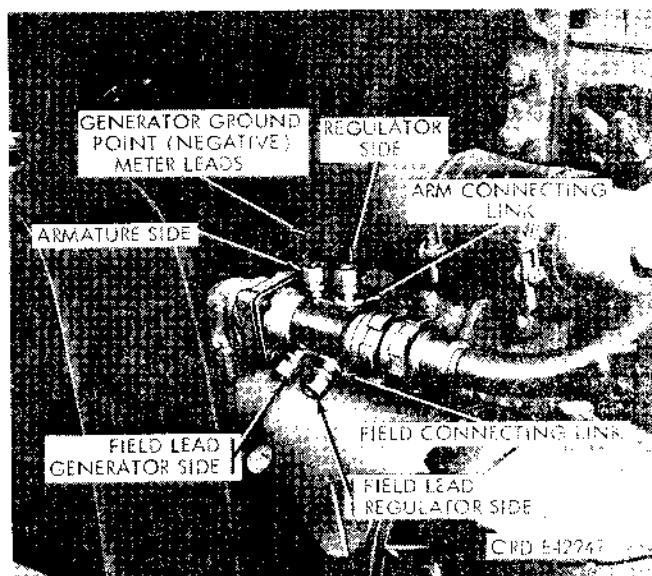

Figure 2-16 Generator adapter in place with connecting points shown.
a. Disconnect the generator-to-regulator cable at the generator and insert the adapter as shown in figure 2-16. Refer to figure 2-18 for the generator system wiring layout.
1. Connect one lead of the variable resistance to the generator armature, and the other lead to the generator field (fig. 2-16 and 2-19).